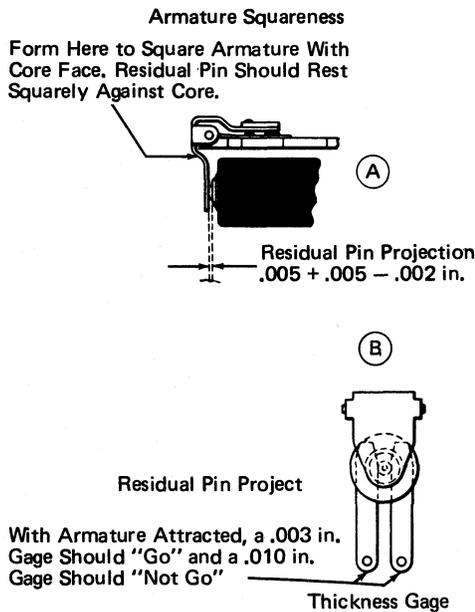

Figure 2-39. Residual Pin Projection
3. On relays with armatures containing residuals, check for .003-inch to .010-inch projection of the residual by inserting the proper thickness gage between the fully-attracted armature and core on each side of the residual pin. In all cases, a .003-inch gage should be free, and a .010-inch gage should not go (Figure 2-39).